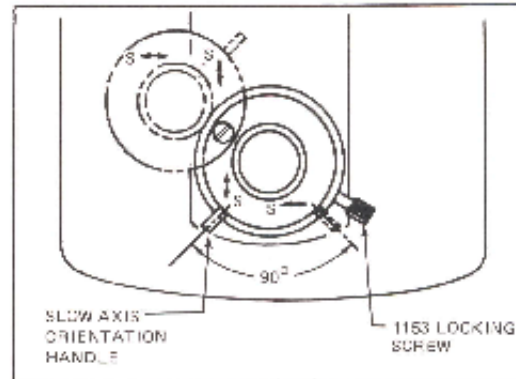
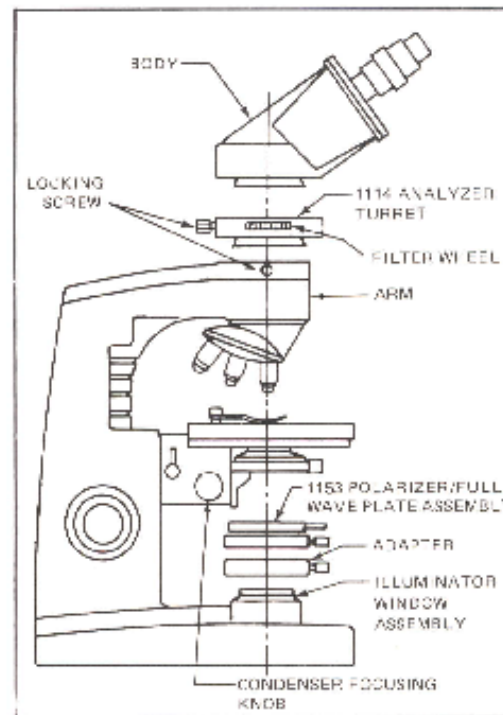

Figure 2.
Figure 5.
3. Orient analyzer assembly approximately as shown in Figure 2. (Final positioning is described as follows.)
2. Rotate Full Wave Plate out of light path (dotted line in Figure 2).
5. Rotate 1153 until maximum extinction (blackest field) is achieved. This should require only slight movement in one direction or another. If not, double check original mounting position of 1153 (Figure 2).
The 1153 Polarizer/Full Wave Plate and Adapter 1153A are mounted on the Illuminator Window Assembly Mounting Flange as shown in Figure 5. (Orient as per Figure 2.) Rotate 1114 Filter Wheel to "1" position. Proceed with installation instructions Section II, C, Steps 2-6.